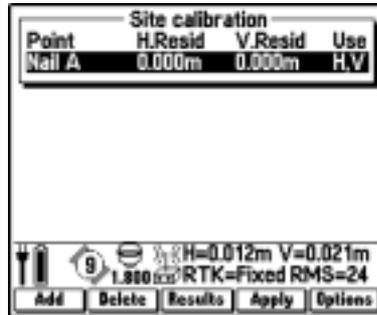

Figure 13.2 Site calibration screen
- Press . The *Site calibration* screen appears, as shown in Figure 13.2.